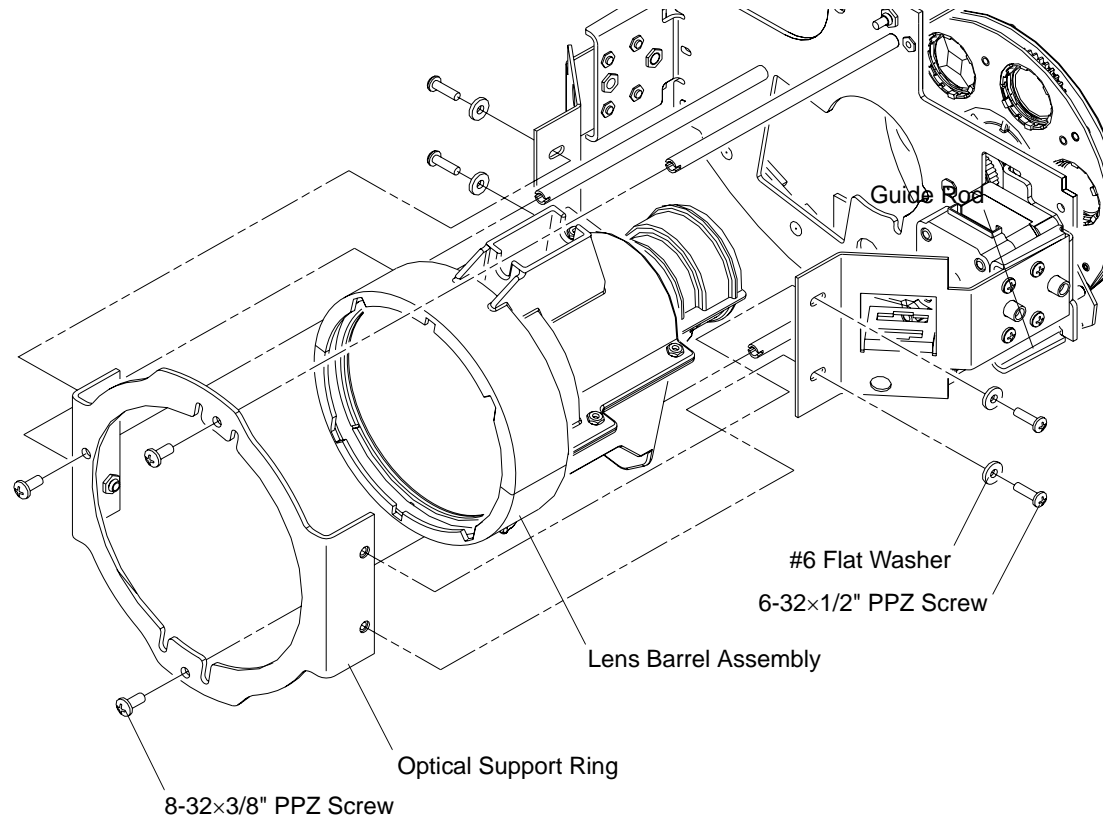

Figure 2-14: Lens Barrel Assembly Replacement
Step 7. At front of optical support ring, remove three 8-32×3/8" PPZ screws. **Figure 2-14.**